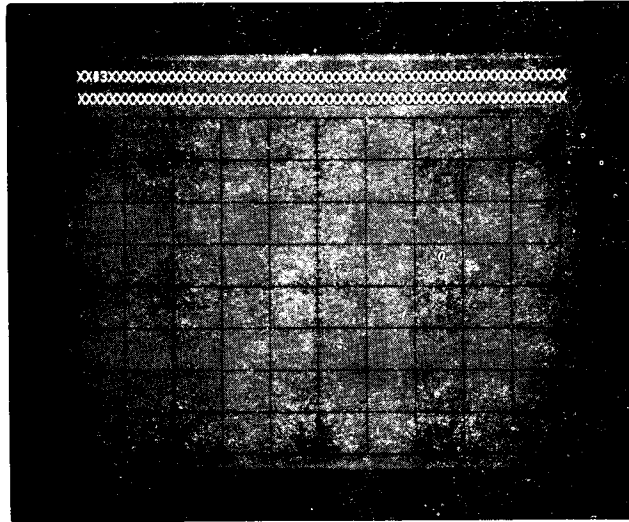

Figure 5-7. CRT Display of Test Routine #3
6. Press PLOT CHAR until test routine #3 is selected. (See Figure 5-7.) This routine displays, in CRT annotation, two rows of X's that are formed by a dot matrix.